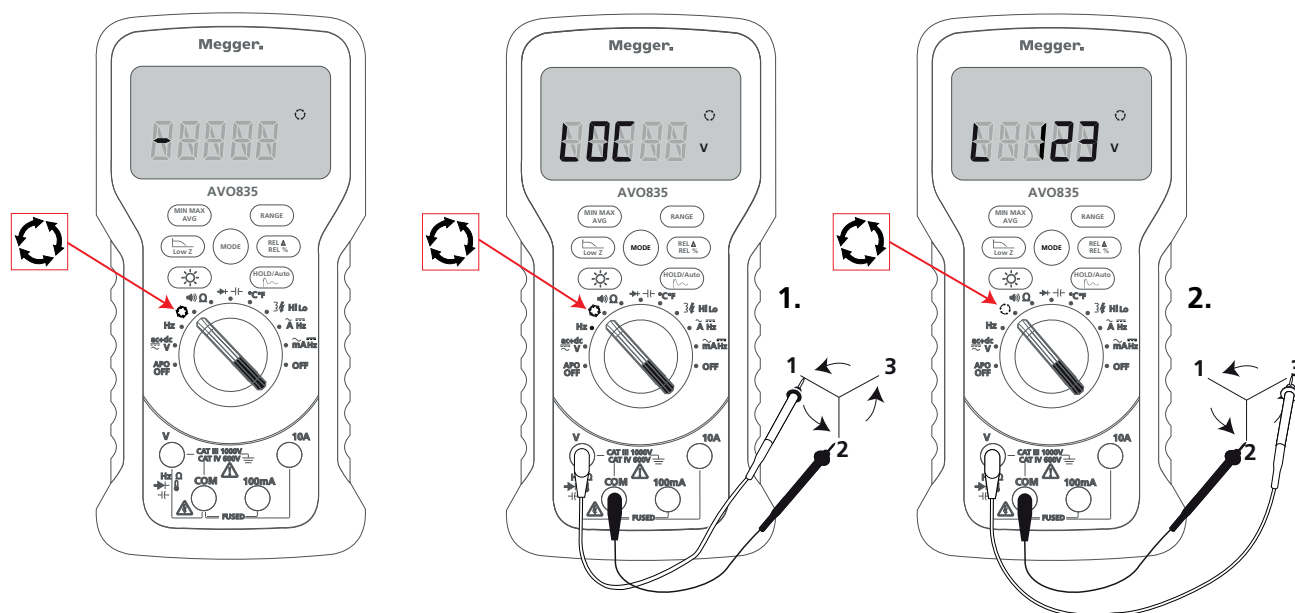

Fig 2: Phase Rotation / Sequence Detection Set-up
1. Set-up the instrument as shown in Fig 2.